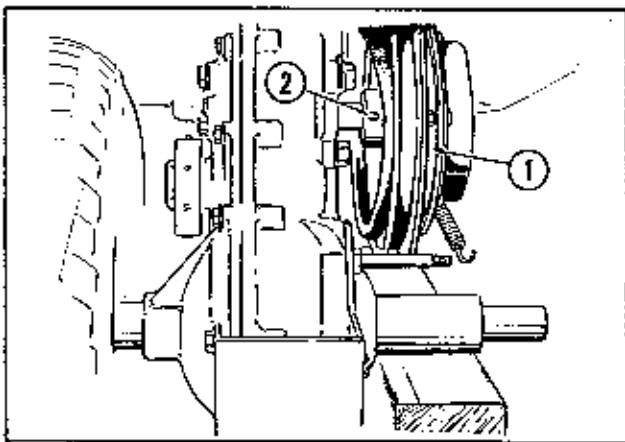
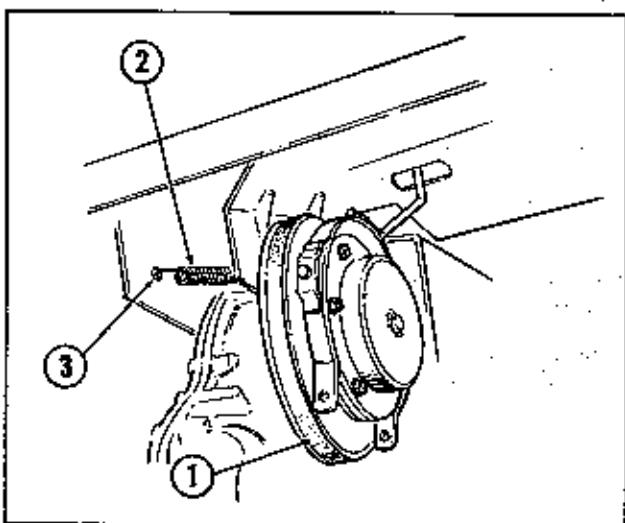

Figure 2
Figure 3
3. Place the two-speed pulley assembly #1, Fig. 2, on the transmission pulley shaft, and lock in place with the set-screw #2, Fig. 2, in the pulley hub. Be sure to maintain a clearance of at least $1/8''$ between the pulley hub and the transmission. Notice that the hub of the pulley faces toward the transmission. Place the V-belt over the two-speed pulley #1, Fig. 3, and replace the idler tension spring #2, Fig. 3, in the hole #3, Fig. 3 as shown to engage the idler pulley with the transmission drive belt.